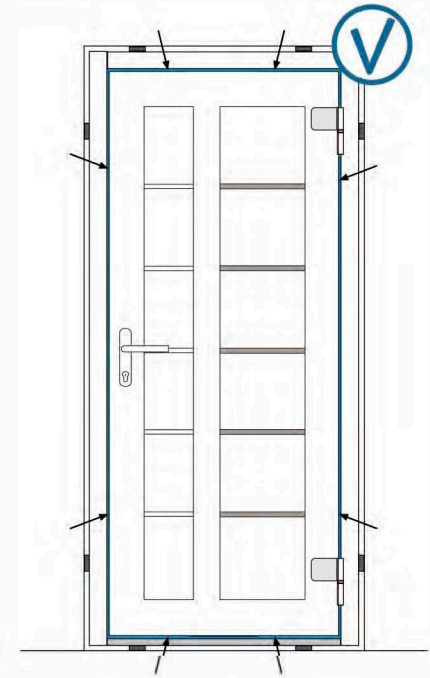

Figure 19
3.16. Close the door, check the vertical and the horizontal, and whether the door leaf is level relative to the frame (figure 19).